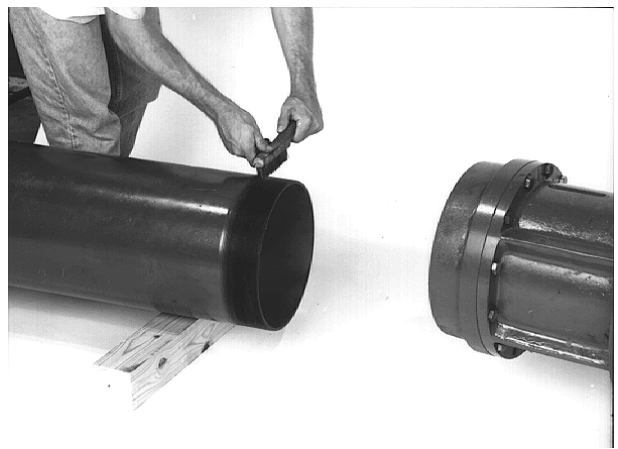

Figure 13 Cleaning riser pipe threads
- a. Clean the mating pipe threads of the pipe and the case or flange as shown in Figure 13.